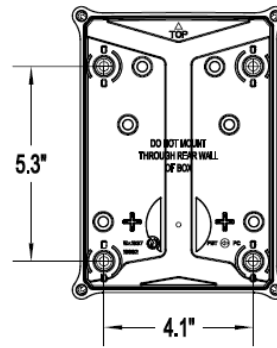
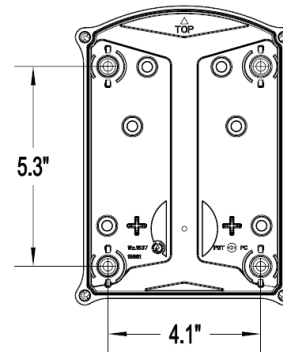

Fig. 1
Fig. 2
For DS Box: See Fig. 1 for water seal cap locations and mounting details. For CDS Box: See Fig. 2 for water seal cap locations and mounting details.
3. Mark mounting hole locations (Figs. 1) on mounting surface and prepare as required for hardware to be used.